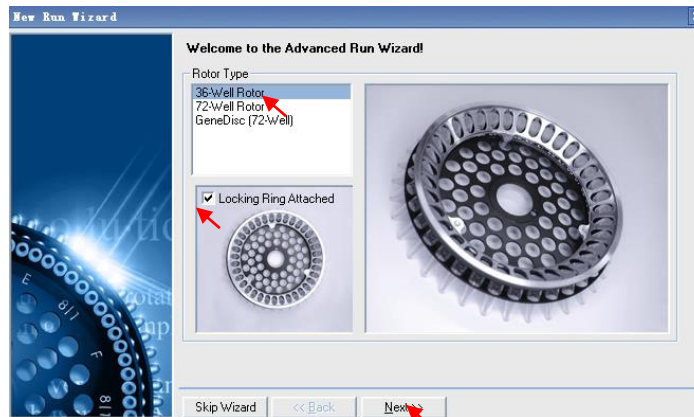

Figure 2
2. Choose “Rotor Type” according to the type of the instrument. Select the “Locking Ring Attached” to make sure the ring has been put on the rotor, then click on “Next” (Figure 2).